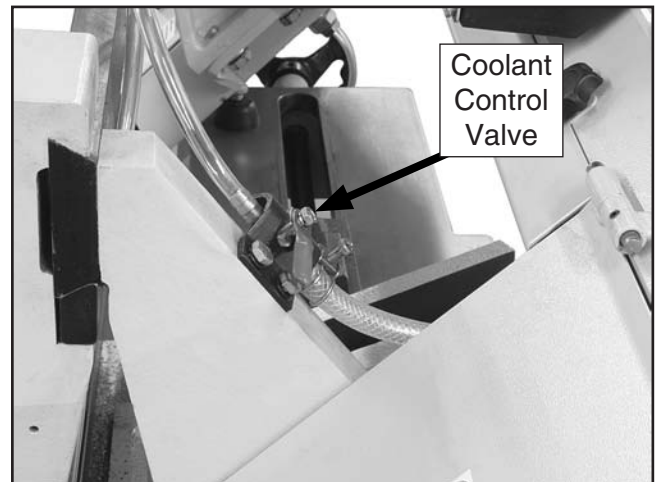

Figure 40. Coolant control valve.
6. Adjust the valve on the coolant hose to control the flow of cutting fluid (see **Figure 40**). Make sure that the pressure is not so high that cutting fluid spills on the floor and creates a slipping hazard.